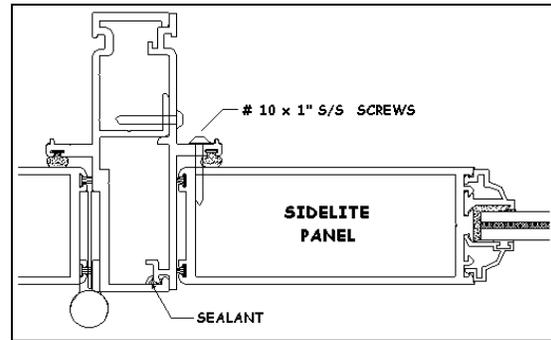
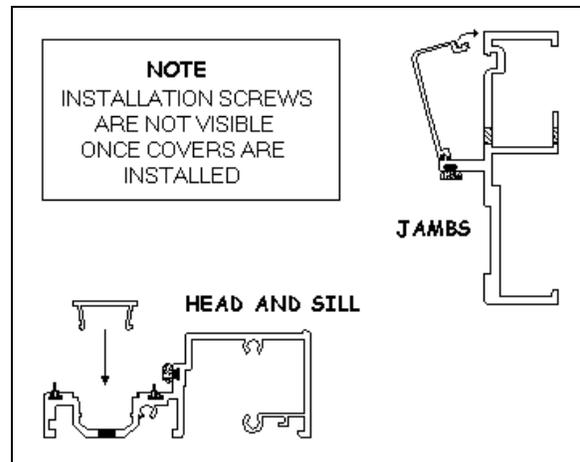

Figure 4: Sidelite panel attachment.
Figure 5: cover location.
12. ^① Install head and sill covers at sidelite frame (see *figure 5*) and then install sidelite panel using # 10 x 1" pan head S/S TEK screws at 3" & 7" from ends and 24" on center max, refer to *figure 4*. Screws are only required at vertical connections (both sides), not at head or sill.
16. ^② Install remaining covers; refer to *figure 5* for location. Note that the head & sill covers may require slight filing of holes where flush bolts and three point locks engage. **It is imperative that the installer makes sure that the three point locks are properly engaging into the head and sill covers. Failure to do so may cause the door to fail during a storm or hurricane.** Refer to items 9. and 10. of the Trouble Shooting portion at the end of this instruction manual. Also, be sure to install head & sill covers on single doors with hole towards lock side.